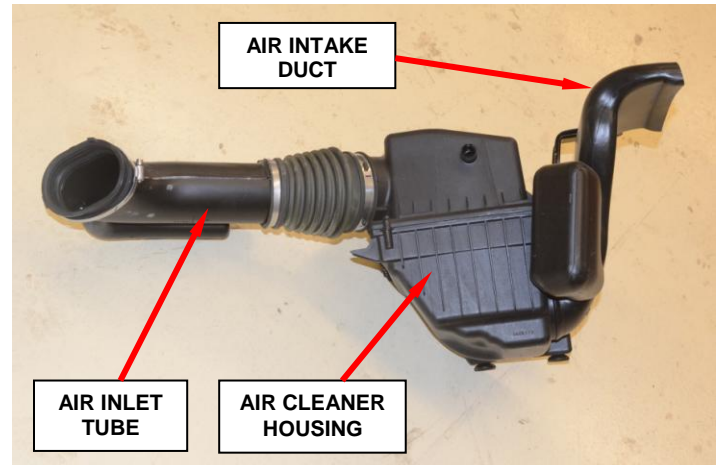

Figure 13 – Air Cleaner Assembly
4. Remove and save the air cleaner assembly (Figure 13).
72. Install the air cleaner assembly (Figure 13).